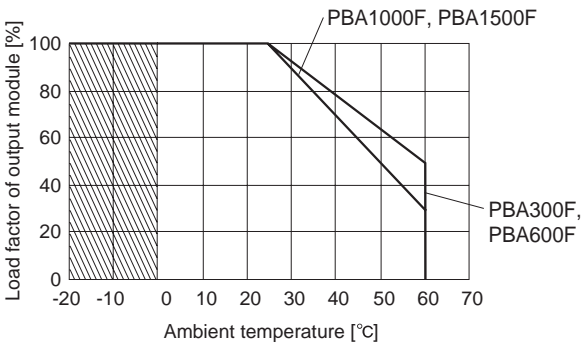

Fig.7.4 Derating curve depending on ambient temperature(-F4)
- The difference from standard is shown Fig.7.4.